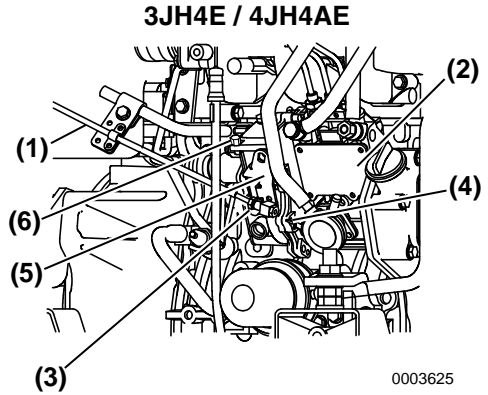
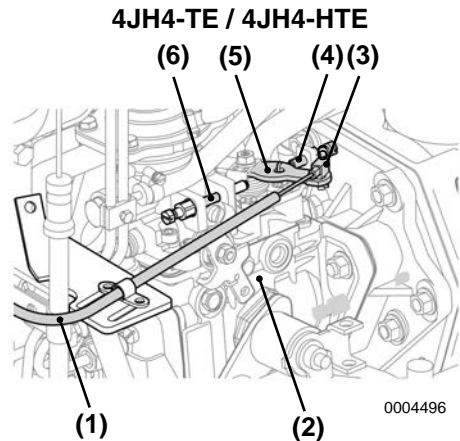

Figure 5
Figure 6
1. To adjust, loosen the adjustment screw or cable fitting (**Figure 5, (3)**) or (**Figure 6, (3)**) for the remote control cable on the engine side and adjust.
- Adjust the high speed stop (**Figure 5, (6)**) or (**Figure 6, (6)**), position first and then adjust the low speed stop (**Figure 5, (4)**) or (**Figure 6, (4)**), with the adjustment screw on the remote control lever (**Figure 5, (5)**) or (**Figure 6, (5)**).